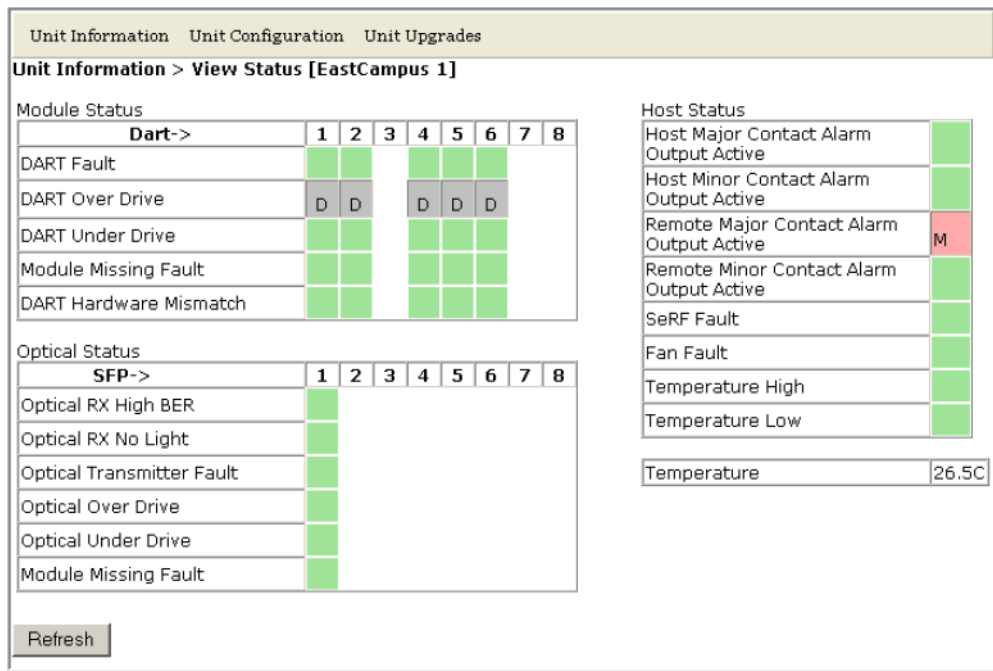

Figure 18. Understanding Color Codes for Empty Slots
- White—a device has not been installed. For example, in Figure 18, which shows the **Unit Information > View Status** page, the **Module Status** table shows that a DART has not been installed in slots 3, 7, or 8. The **Optical Status** table shows that SFPs are not installed in Optical ports 2 through 8.